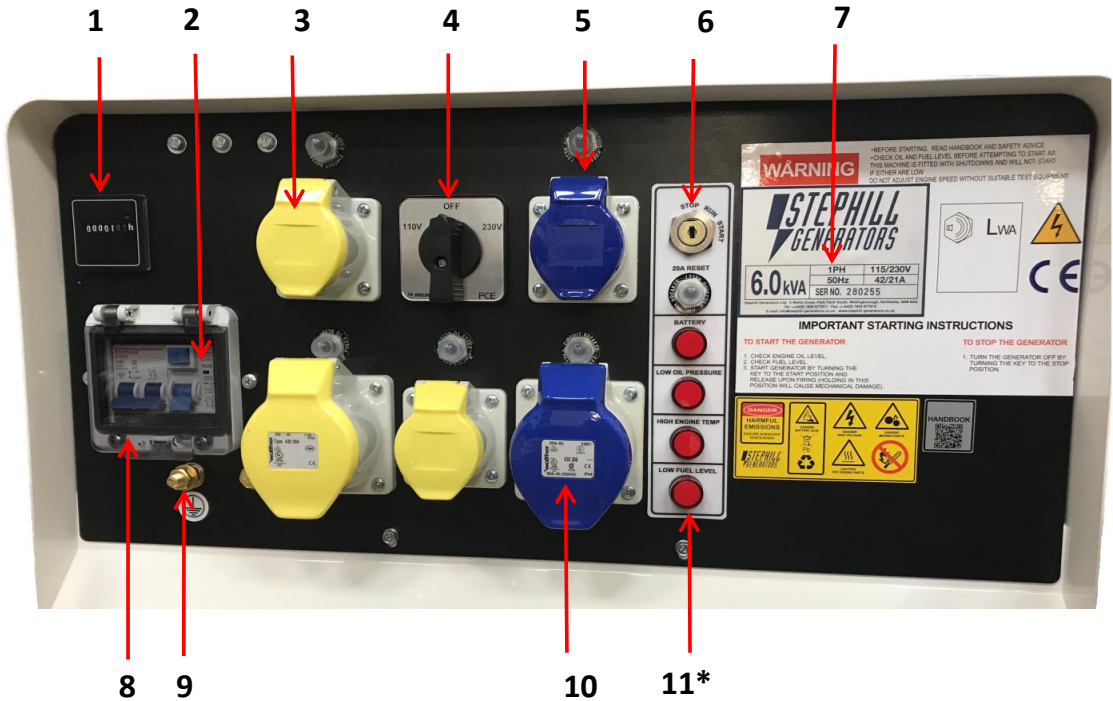
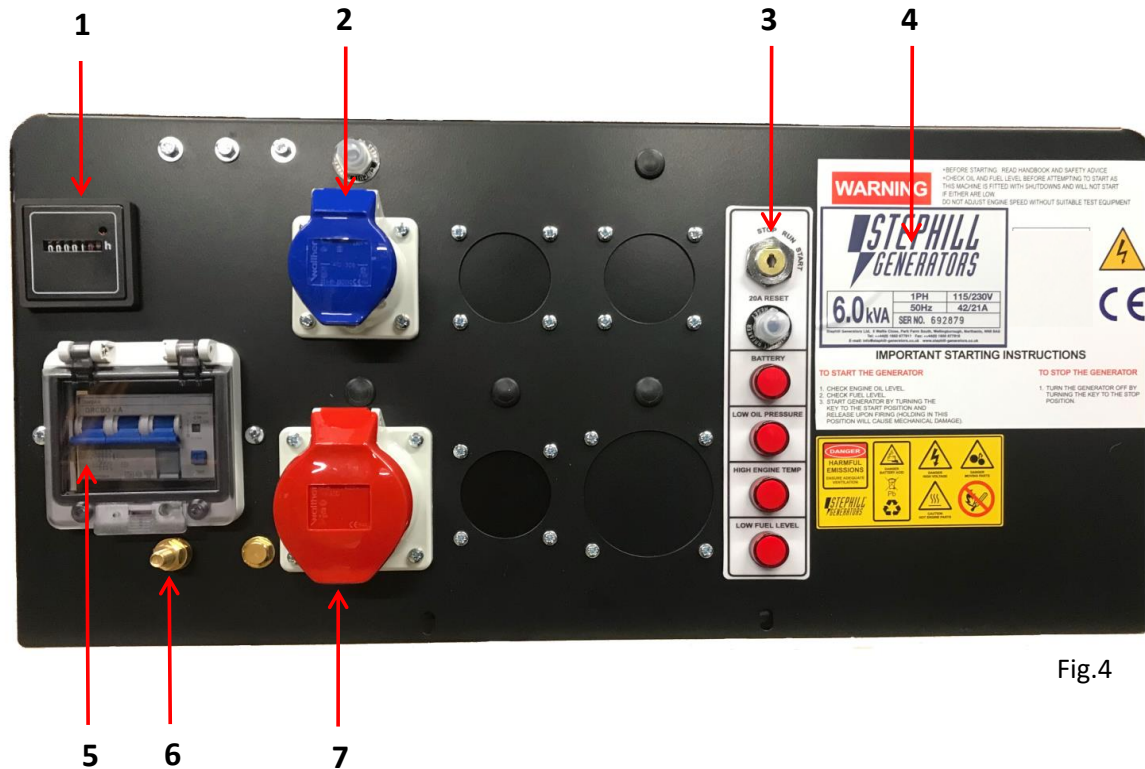

Fig.2
Fig.4
Fig.2 below shows a typical example of a standard dual voltage control panel.
**Fig.3** shows the previous version of the Warning & Shutdown lamps. These operate exactly the same as the current versions shown in **Fig.2** & **Fig.4** but are not LED.
Fig.4 below shows a typical example of a standard 3 Phase control panel.
Fig.3 shows the previous version of the Warning & Shutdown lamps. These operate exactly the same as the current versions shown in Fig.2 & Fig.4 but are not LED.